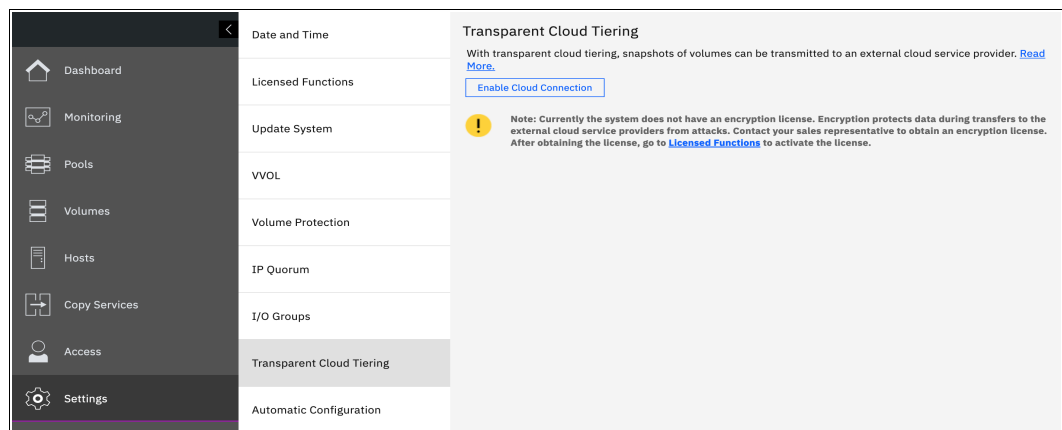

Figure 10-65 Enabling Cloud Tiering
1. Using the IBM Spectrum Virtualize GUI, click **Settings** → **System** → **Transparent Cloud Tiering** and then, click **Enable Cloud Connection**, as shown in Figure 10-65. The TCT wizard starts and shows the welcome warning.